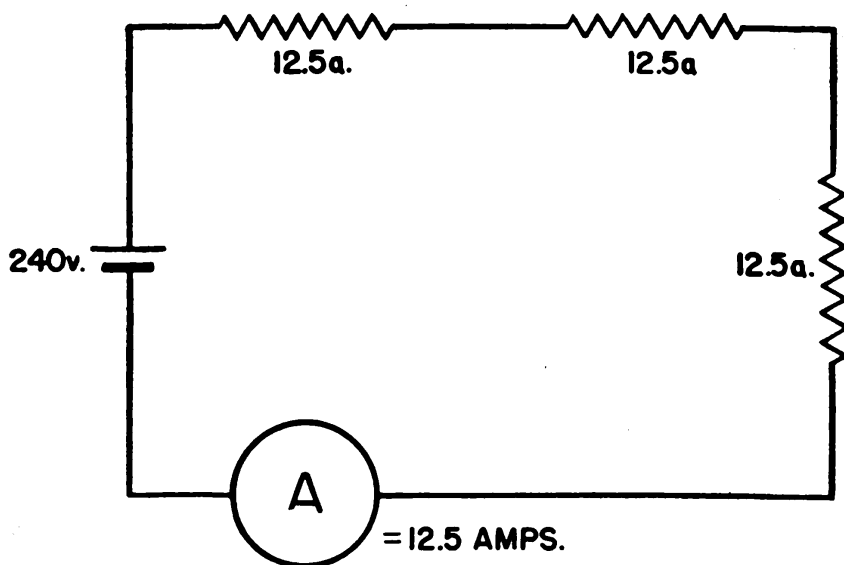

Figure 46.—Example 3.
Figure 46 shows three 1,000 watt heaters connected in series to a 240-volt battery. Each heater has a current of 12.5 amperes. (1) What is the